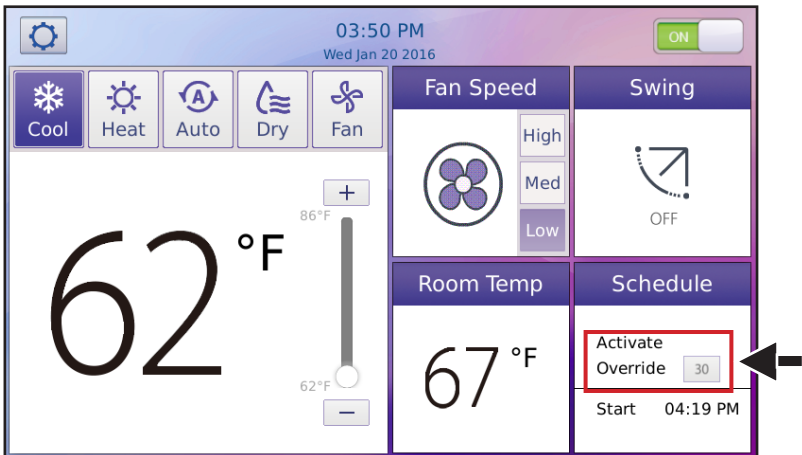

Figure 63. Example: Allow Users to Select Only 30 Minute Override-Period
- To limit the user to only one override period, tap the appropriate button. See Figure 63.